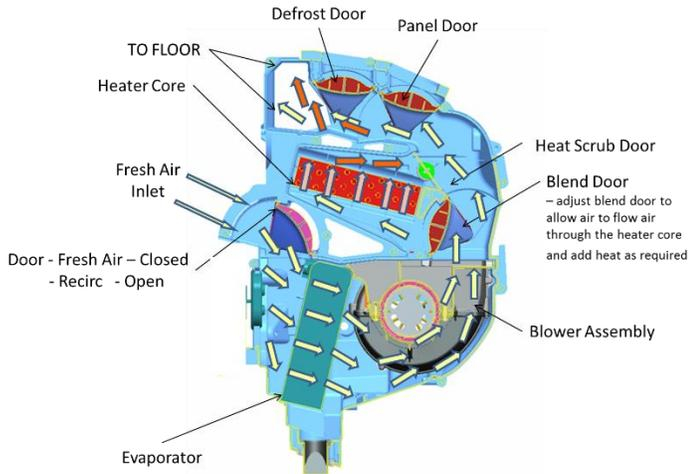

Figure 7: Fresh Air, Floor
*Figure 7* illustrates the system airflow when operating in the Heat and Vent **FLOOR mode**. The Heat and Vent Floor mode is identical to the Heat and Vent mode; except the mode doors direct all the output air to the floor ducts.